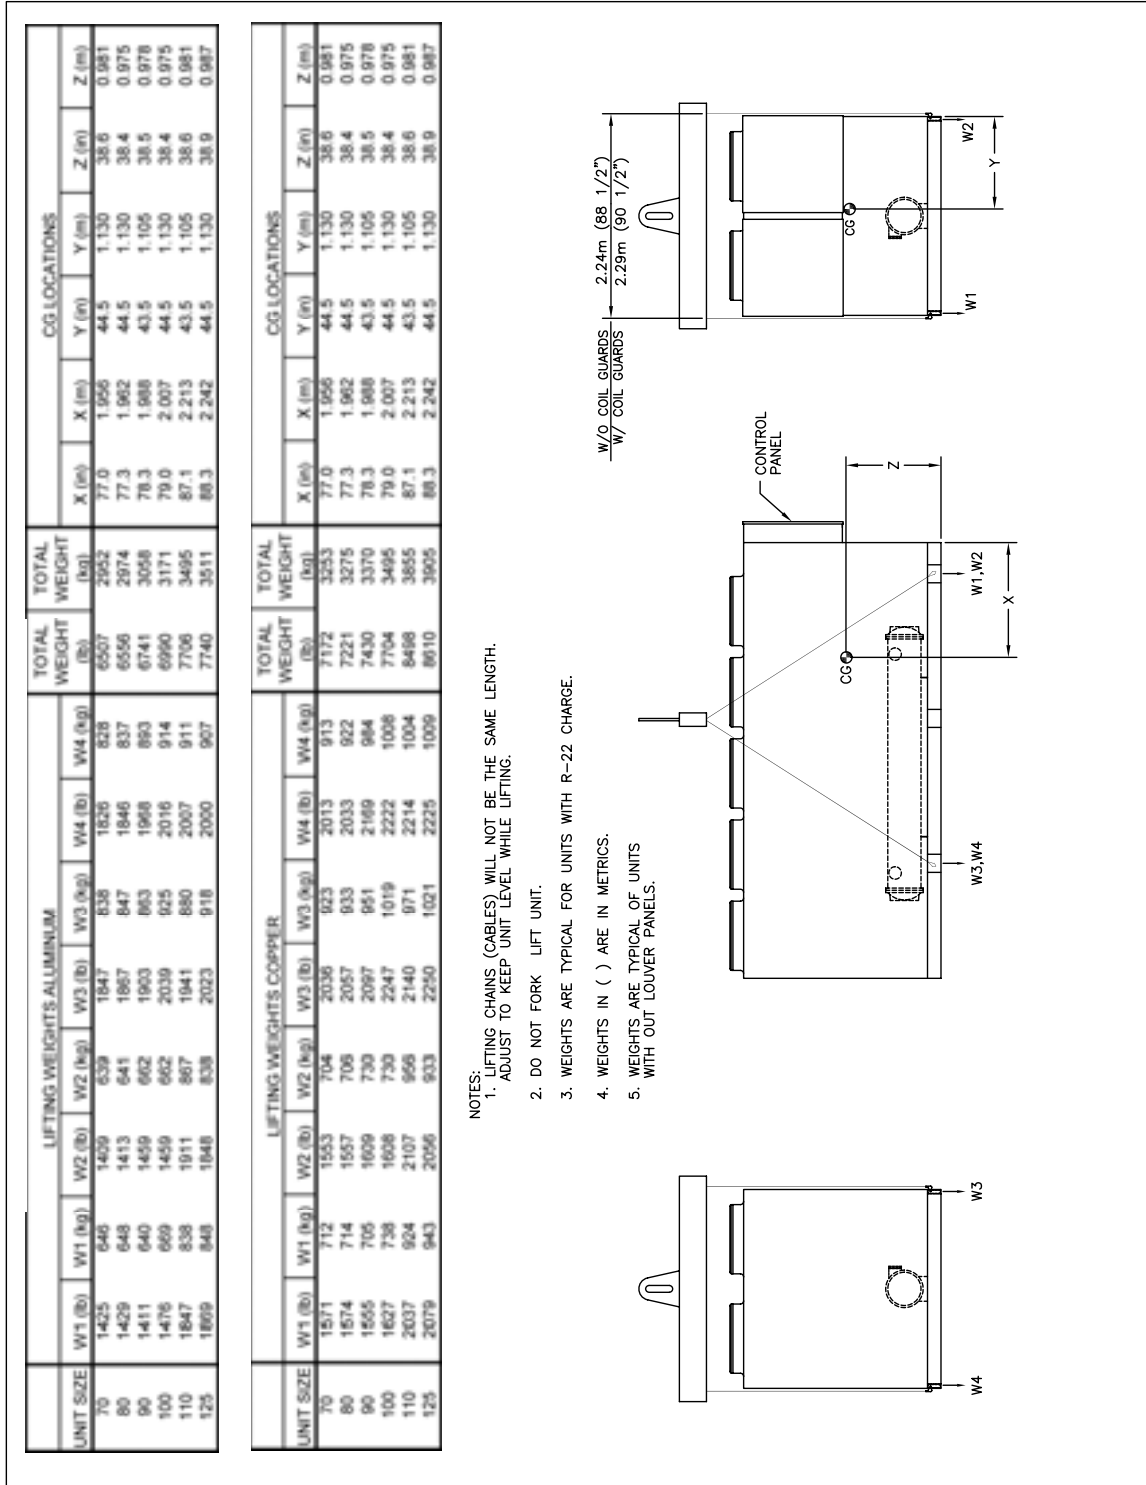
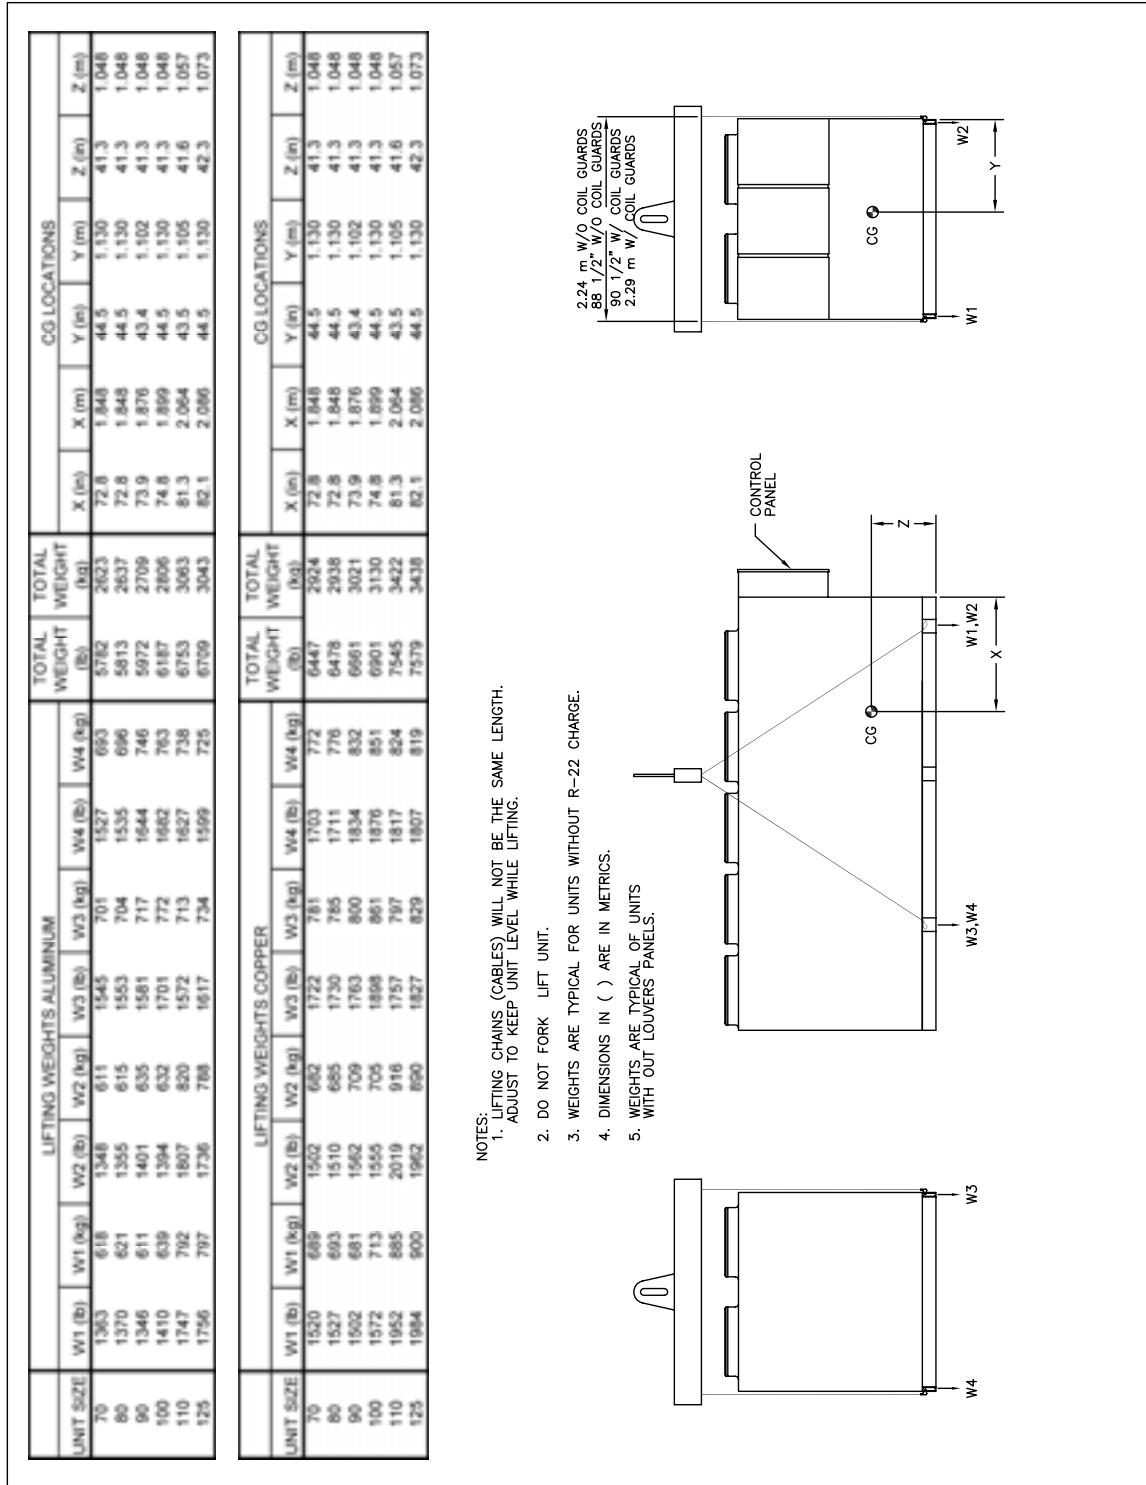

Figure 4 RTAA Rigging and Lifting Weights – Packaged Unit
Figure 5 RTAA Rigging and Lifting Weights – Remote Evaporator
The Model RTAA chiller should be moved by lifting. Refer to Figure 4 for typical unit lifting and weights. Refer to the rigging diagram that ships with each unit for specific "per unit" weight data.
- Attach cables to lifting beam. Total lifting weight, lifting weight distribution and required lifting beam dimensions are shown in Figure 4 and Figure 5 and on the rigging diagram shipped with each unit. Lifting beam cross-bars must be positioned so lifting cables do not contact the sides of the unit.